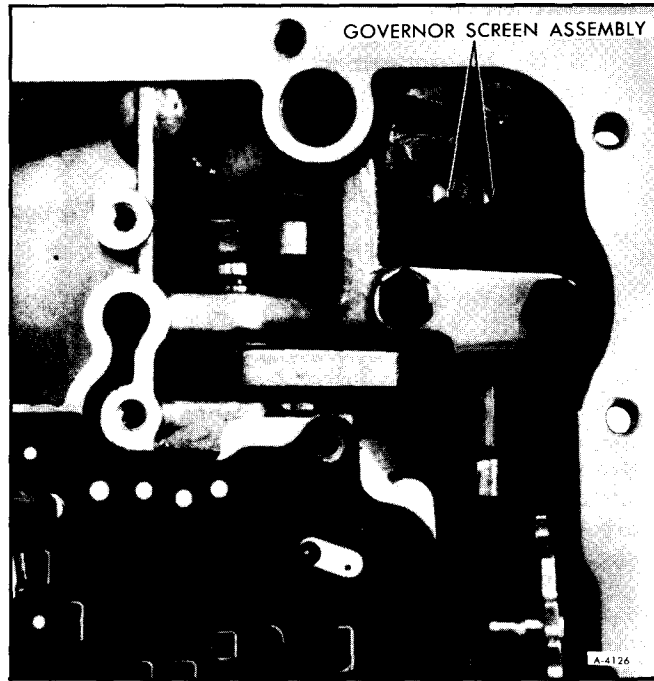

Figure 101—Installing Governor Screens
25. Install two governor screen assemblies with open end up into case, Figure 101.